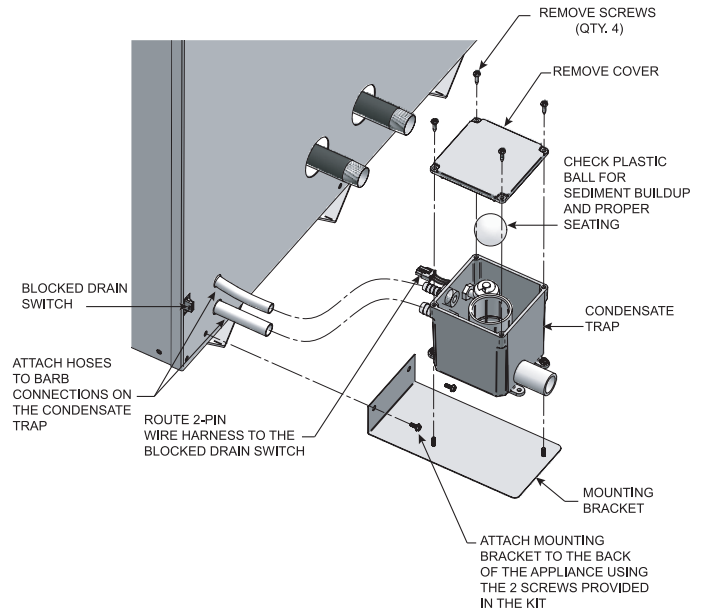

Figure 6-1_Install Condensate Trap
1. Locate the condensate trap kit shipped loose with the appliance. The kit includes a sheet metal mounting base, two (2) nuts and the condensate trap.
2. Install the condensate trap mounting base on the rear of the appliance in the lower left-hand corner as depicted in FIG. 6-1. Use the pre-drilled holes on the appliance to secure the mounting base to the appliance.
3. Secure the condensate trap to the base using the two (2) nuts supplied with the kit. The trap should be oriented so that the barb connections are pointing toward the appliance (FIG. 6-1).
5. Locate the two hoses exiting the back of the appliance. Attach the larger hose on the appliance to the lower barb connection on the condensate trap. Secure the hose to the barb with a field supplied hose clamp (FIG. 6-1).
6. Attach the smaller hose on the unit to the upper barb connection on the condensate trap. Secure the hose to the barb connection with a field supplied hose clamp (FIG. 6-1).
7. Route the 3-pin wiring harness from the condensate trap to the matching connector on the lower back of the appliance as shown in FIG. 6-1. This is the blocked drain safety switch. This switch will shut the appliance off if the condensate trap becomes too full of liquid.
8. Remove the four (4) screws securing the top cover to the condensate trap and remove the cover (FIG. 6-1).
9. Locate the plastic ball inside the float tube. Verify there is nothing under the ball causing it to not seat properly (FIG. 6-1).
12. Replace the four (4) screws removed in Step 8.
13. A 1/2" pipe connection is supplied on the condensate trap. Connect a suitable pipe or tube to this connection (see FIG. 6-1).